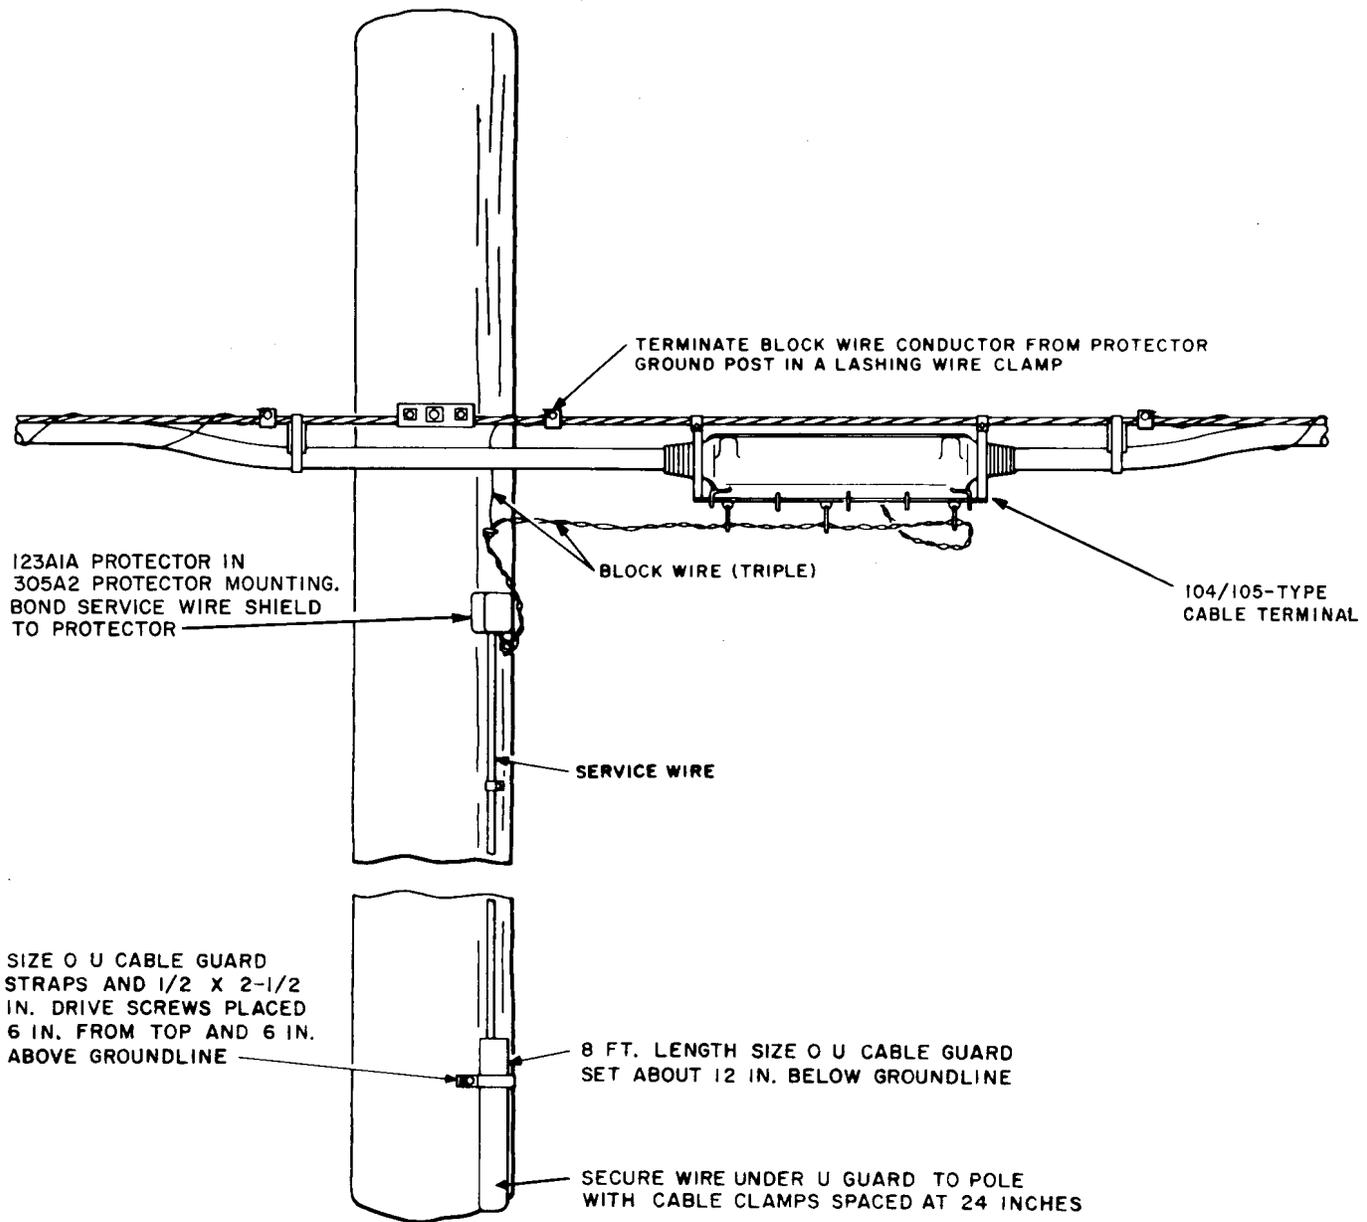

Fig. 40—Termination for Special Lightning Protection
11.08 In lightning areas where the subscriber's station is exposed to lightning, it may be desirable to furnish additional lightning protection to buried service wires which are 700 feet or less in length. Under these conditions, detailed plans or other special instructions will authorize bonding the metallic shield at the aerial cable terminal. Such installations require the use of a 123- or 128-type protector (equipped with 2B2E protector units) and bonding the metallic shield to the ground post of the protector. A bond is also required between the protector ground post and the cable strand. For the latter purpose, block wire is required as a fusible link to prevent the metallic shield from overheating. A typical installation is shown in Fig. 40.